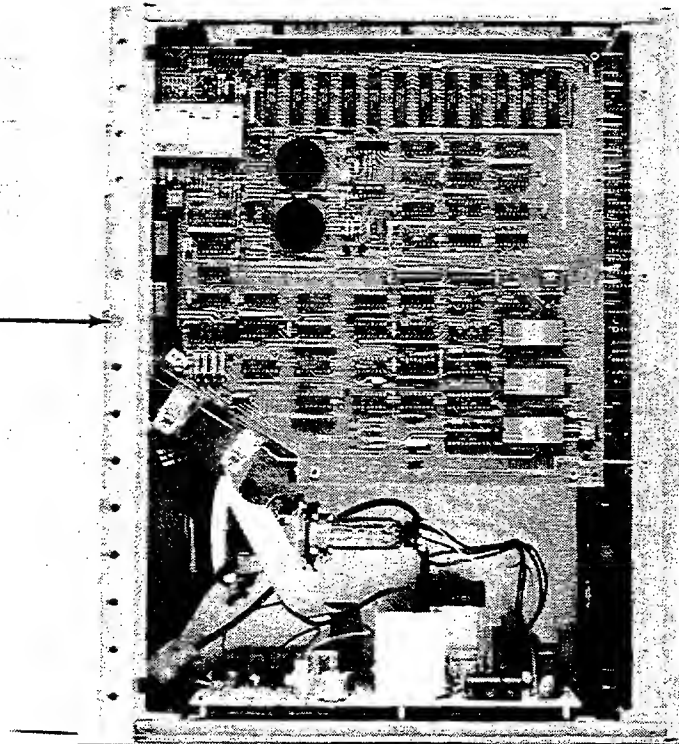

Figure 8-13.
- b. Tilt the instrument on its side and remove the screw indicated in figure 8-13 and the bottom cover.